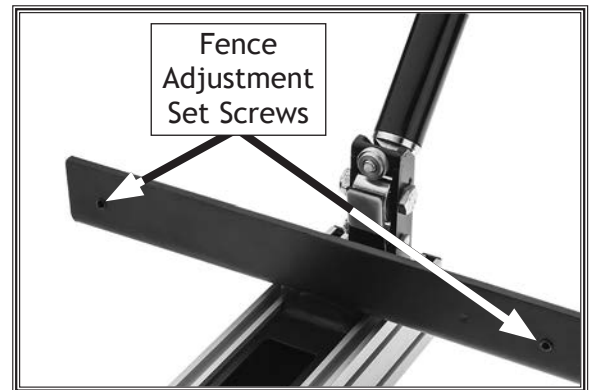

Figure 117. Location of set screws to adjust fence parallelism (shown upside down).
Two set screws at the front of the fence position it parallel with the blade (see **Figure 117**). Follow the procedures below to check the fence/blade parallelism and adjust the fence if necessary. Perform this step *only* after **Adjusting Fence** on **Page 66**.
4. Adjust two set screws on front of fence, as shown in **Figure 117**. Each set screw adjustment affects opposite side of fence.